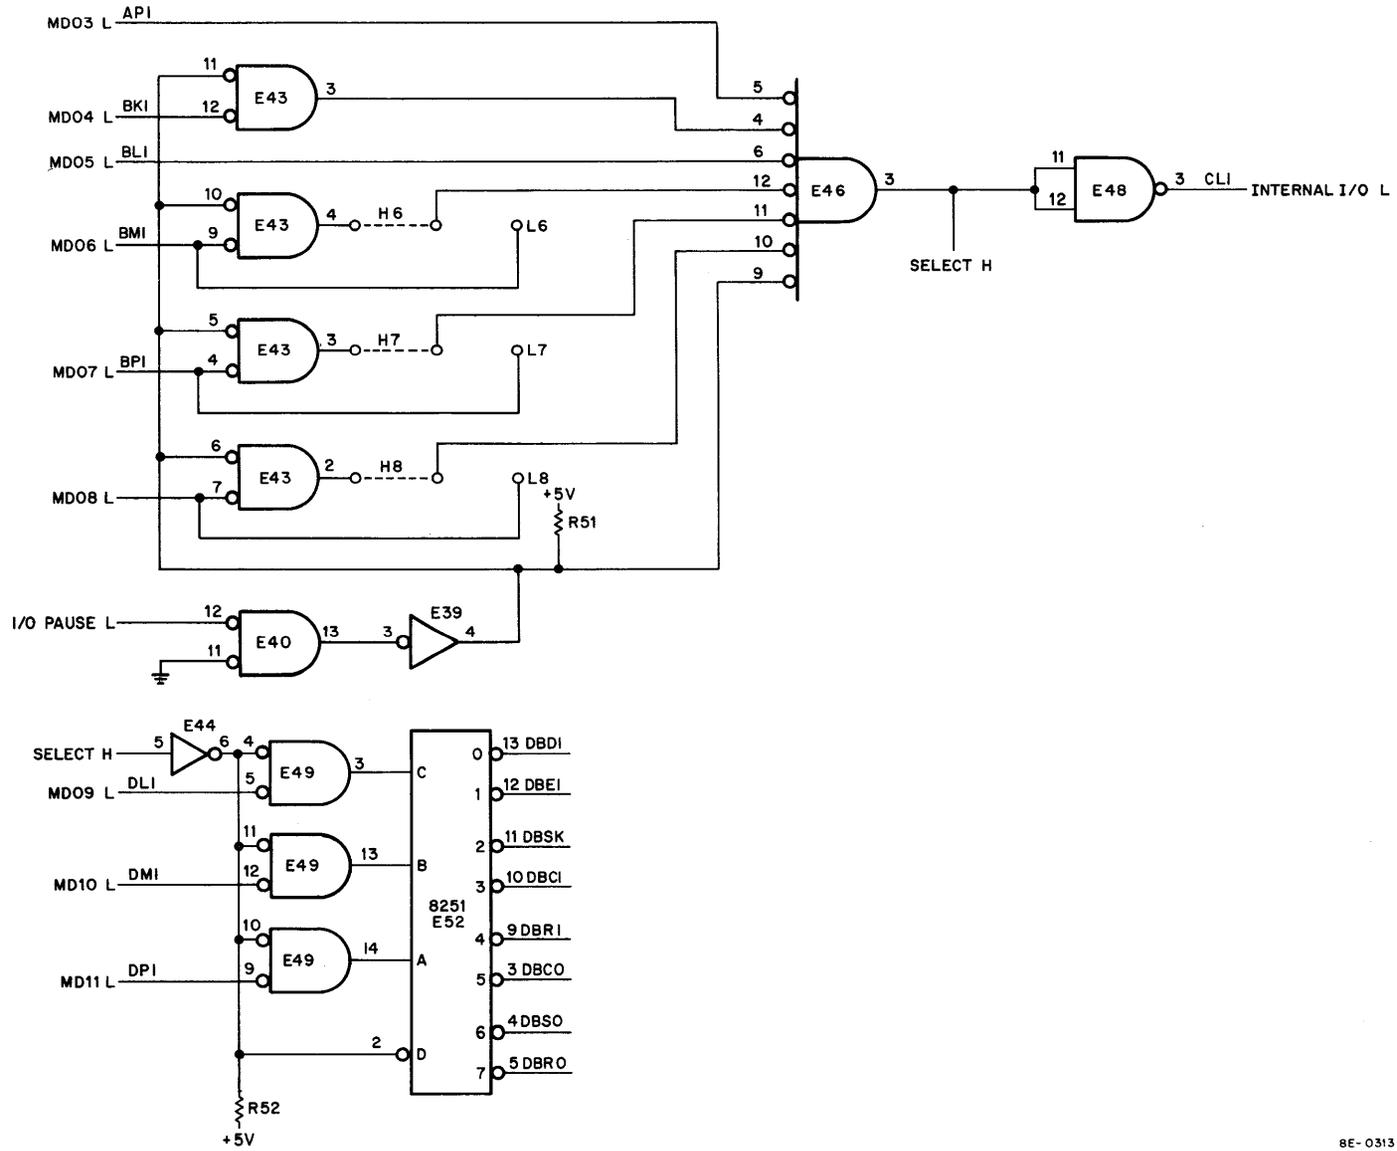

Figure 4-46 Device Select and Operation Decoder Logic
4.5.2.1 Device Select and Operation Decoder – The Device Select logic in Figure 4-46 will have bits MD3L–MD11 and I/O PAUSE as inputs. I/O PAUSE will be generated 150 ns after TP1 of any IOT cycle. In the Buffered Digital I/O, it will enable the AND gates to allow decoding of MD3L–MD8L. When these gates are enabled and a 6X octal code is present, a SELECT H and INTERNAL I/O are generated. SELECT H will be used to enable the Operation Decoder.
The Input Register can be cleared by 1's from the AC when a DBCI instruction is performed. To clear a flip-flop, there must be a 1 input to an AND which is enabled by the DBCI instruction (see E3 Figure 4-46). Inverter E1, which has its output tied to E3, will receive B00 H from the Data Bus. The contents of the AC (see Figure 4-48) will be applied to AND gates (see E6 in Figure 4-48); the gates will be enabled by SELECT H which is present on any instruction to the DR8-EA. The outputs of the AND gates (B00 H–B11 H) will be applied to the gates enabled by the DBCI instruction (see Figure 4-48). The DBCI and the output of E1 will enable E3 and be applied to E2. The output of E2 is tied to the clear side of the flip-flop; a 1 will clear this bit. The Input Register will also be cleared if CLEAR or INITIALIZE are applied to E2.